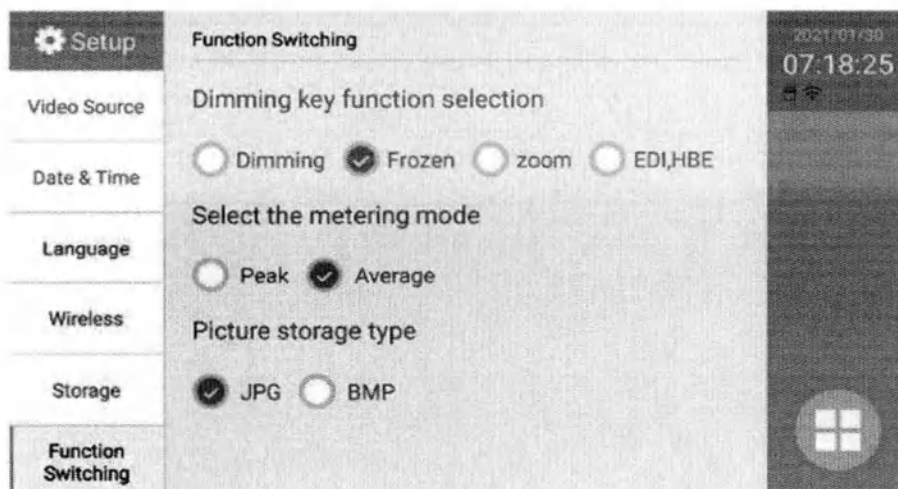

Fig3.13
3.2.6.1 Under the main menu, press the "function switch" button. Enter the function switch setting interface, and select "freeze" below (as shown in Fig 3.13). Then return to the preview interface.